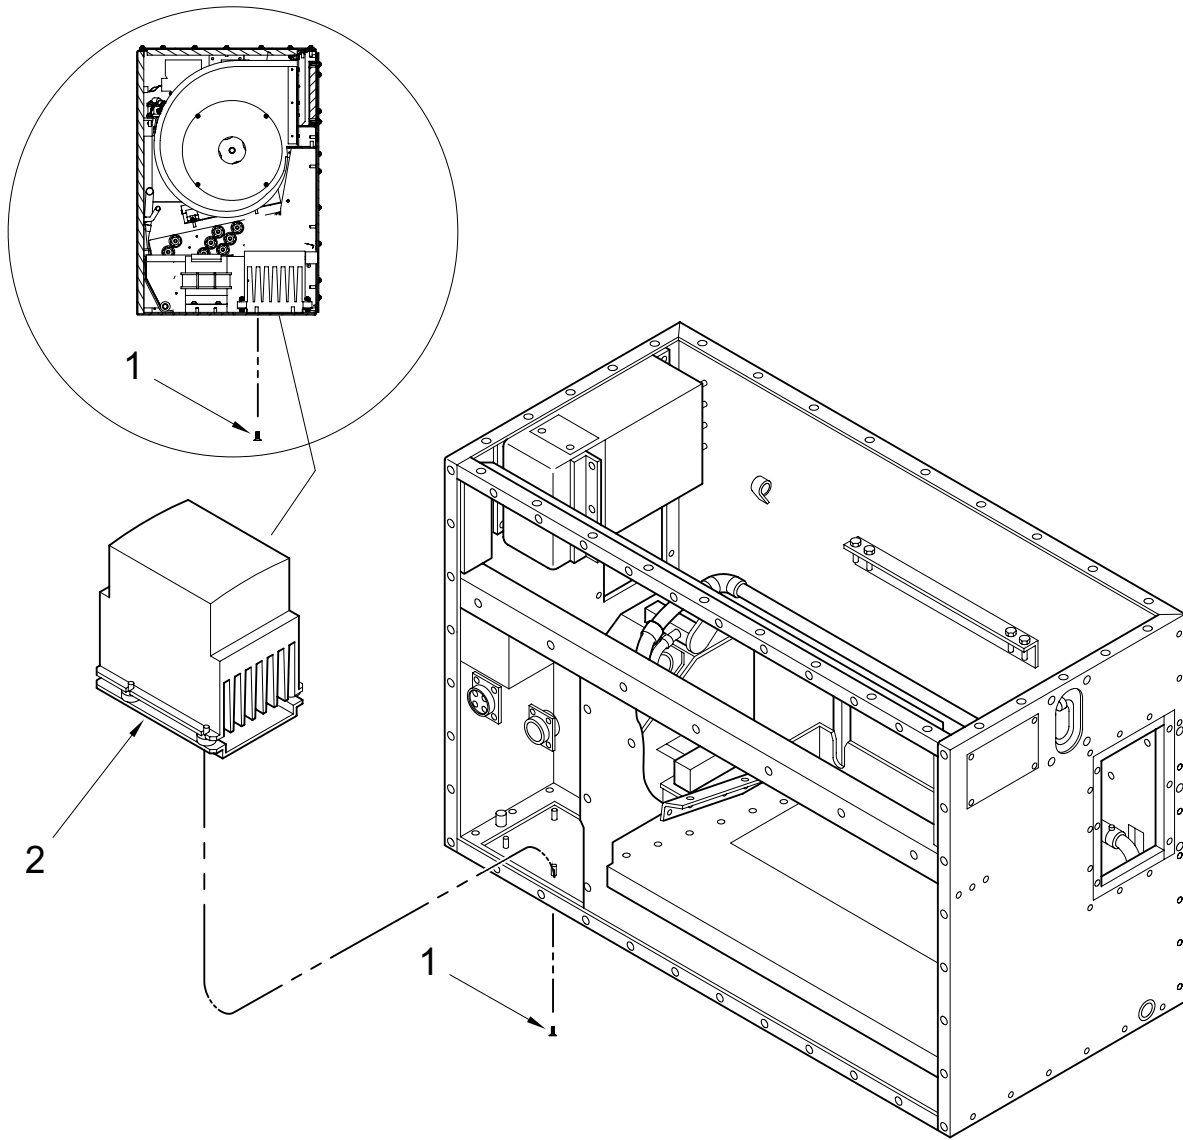

Figure 2. VARIABLE FREQUENCY DEVICE - LOCATION.
1. Remove screws (1) located on bottom of the evaporator that secures the VFD assembly (2) in place. See Figure 2.
3. Carefully remove the VFD assembly (2) through the front of the evaporator. See Figure 2.
2. Insert the VFD assembly (2) through the front of the evaporator assembly. See Figure 2.
5. Use screws (1) retained in removal to secure the VFD assembly (2).